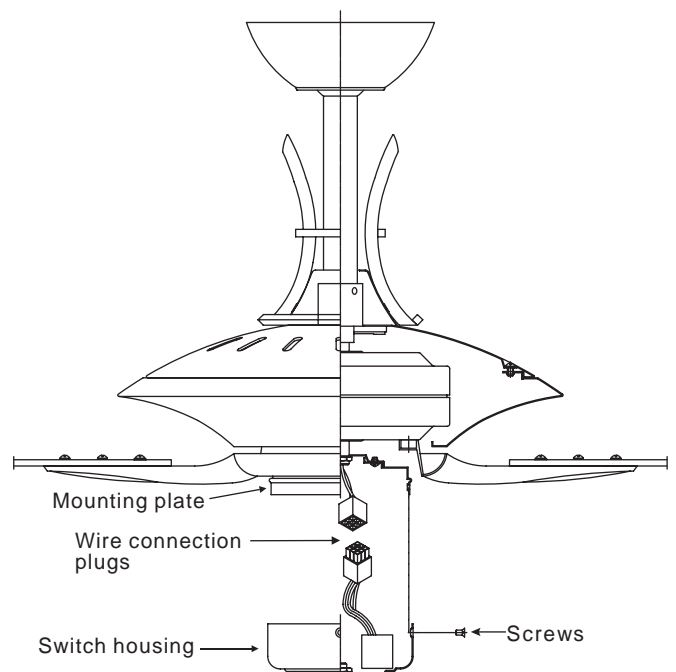

Figure 19
4. Remove the screws from the mounting plate under the fan motor. Raise the switch box to the mounting plate until the holes in switch box and mounting plate line up. Reinsert the screws to secure in place. (Fig. 19)